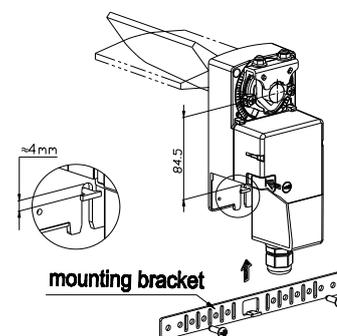

Fig.3
3. As shown in Fig.3, the mounting bracket assists fixation: press the manual button, synchronously rotate the clamping bracket and damper clockwise to the horizontal position, and insert the bracket.